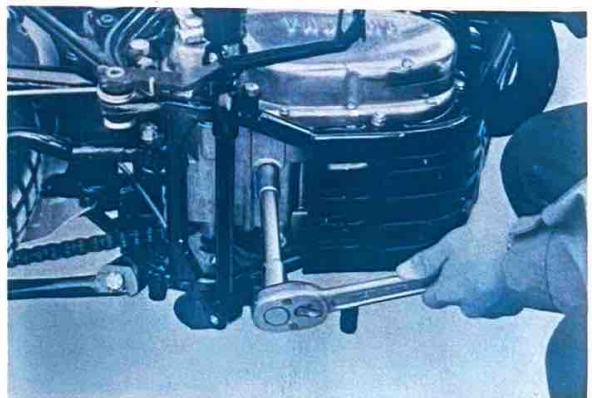

Fig. IV-1-1
- 1) Start the engine and warm it up for a few minutes, then turn off the engine and drain the transmission oil. (Fig. IV-1-1)